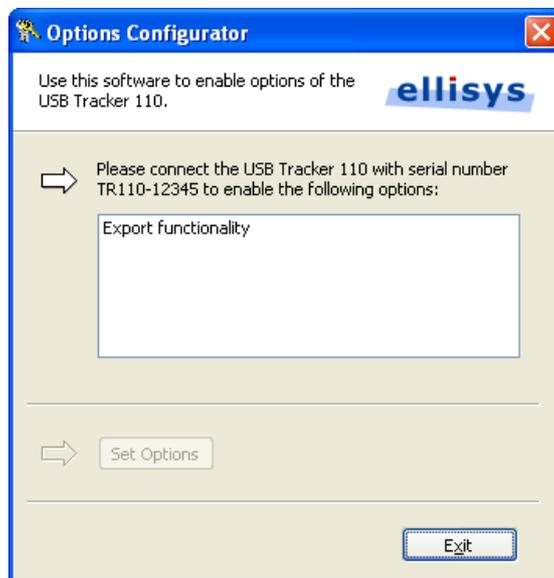

Figure 31 - Software waiting for an analyzer connection
3. Launch the software. It will display your analyzer serial number on which it is intended to run (see Figure 31).